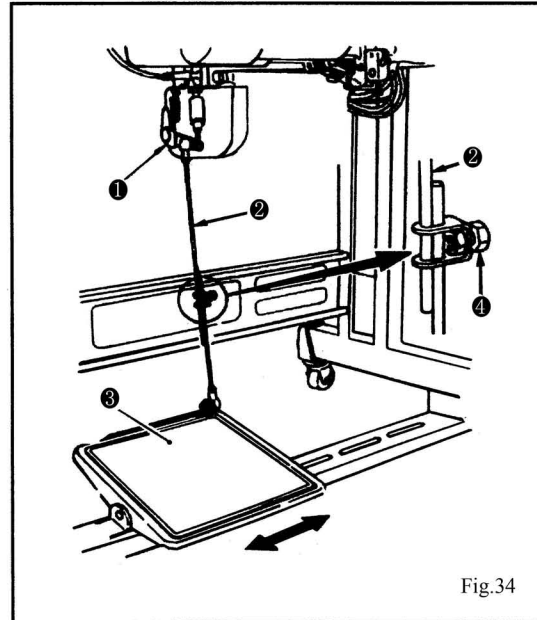

Fig.34
28. Pedal pressure and pedal stroke (Fig.34)